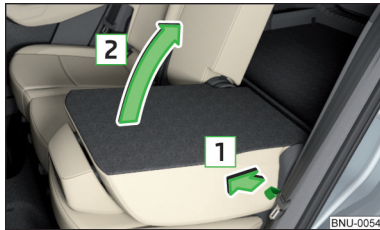

Fig. 95
- ▶ Pull on the loop in the direction of arrow **1** » Fig. 95 and fold back the seat backrest in direction of arrow **2**. Check this by pulling on the seat backrest.